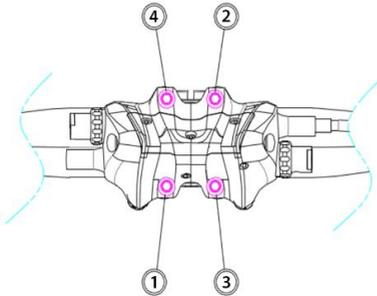
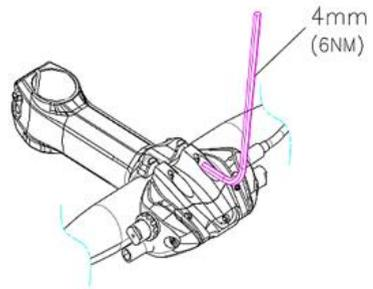

Fig. E-1 Torqueing sequence
Fig. E-2 Locking torque 6 Nm
- Tighten Stem bolts following the sequence shown (**Fig. E-1**), fastening torque is 6 Nm (**Fig. E-2**)